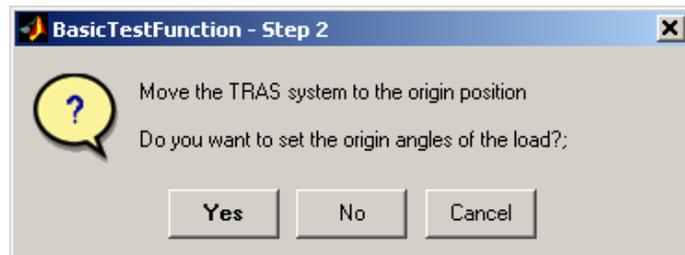

Fig. 2.4 The *Reset Angles* window
- Double click the *Reset Angles* button. When Fig. 2.4 opens, move the *TRAS* system to the origin position and then click the *Yes* option. The encoders reset and zero positions of the beam are going to be remembered so long as an measurement error occurs.